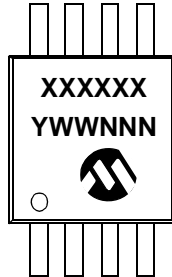

**FIGURE 6-1:** Typical Application.
3. Moved Typical Application figure in **Section 6.0 “Applications information”** (see **Figure 6-1**).